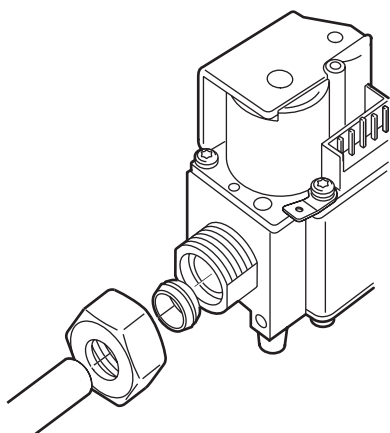

Fig. 3. External thread connection with nut and olive
- Tighten gas control using the right open end wrench. See fig. 3.
③ With $\frac{3}{4}$ " nut and olive (see fig. 3.)